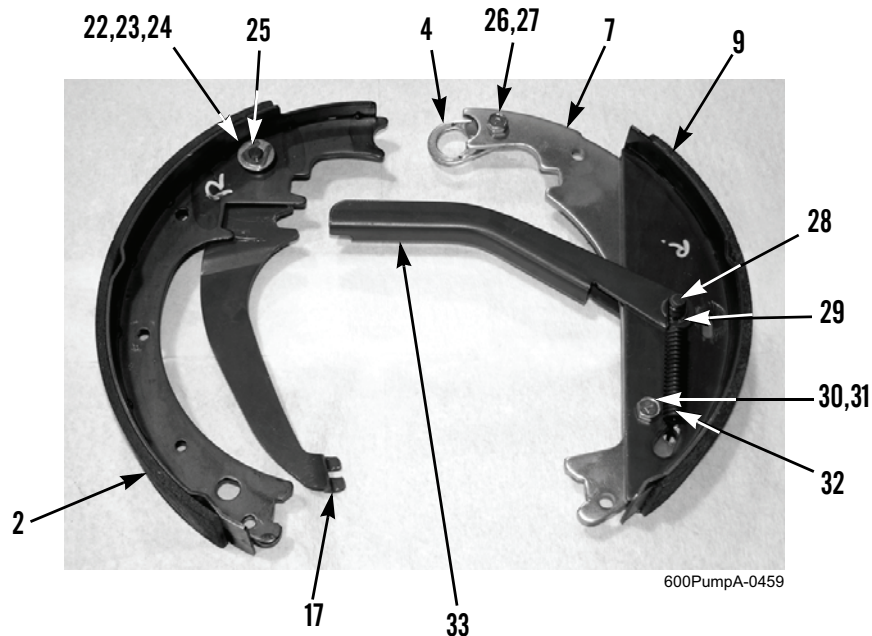

Figure 6. Right-Side Service Brakes.
- a. Install backing plate (Figure 6, Item 8) on five mounting studs (Figure 6, Item 39) at axle spindle (Figure 6, Item 40) with five nuts (Figure 6, Item 36). Tighten nuts evenly to 50 ± 5 lb-ft (68 ± 7 Nm).
- b. Remove plug from flex brake line (Figure 6, Item 37) and connect flex brake line to wheel cylinder (Figure 6, Item 41).
- c. Install wheel cylinder (Figure 6, Item 41) on backing plate (Figure 6, Item 8) with two new capscrews (Figure 6, Item 35) with integral lockwashers. Tighten capscrews with integral lockwashers to 168 ± 17 lb-in. (19 ± 1.9 Nm).
- d. Feed hand brake cable (Figure 6, Item 16) through backing plate (Figure 6, Item 8), then connect hand brake cable sheath (Figure 6, Item 38) to backing plate.
- e. Wipe clean any grease from hand brake cable (Figure 6, Item 16) or hand brake cable sheath (Figure 6, Item 38) to ensure grease does not come in contact with brakeshoe linings.
2. Install parking shoe lever (Figure 6, Item 33) on front brakeshoe (Figure 6, Item 9) and backing shoe lever (Figure 6, Item 7) with pin (Figure 6, Item 28) and new retaining ring (Figure 6, Item 29).
3. Secure backing shoe lever (Figure 6, Item 7) to front brakeshoe (Figure 6, Item 9) with capscrew (Figure 6, Item 31) and new locknut (Figure 6, Item 30). Tighten locknut as needed to ensure a 0.30-in. (0.76-mm) clearance between backing shoe lever and front brakeshoe.
4. Install spring (Figure 6, Item 32) on backing shoe lever (Figure 6, Item 7) and pin (Figure 6, Item 28).
5. Install link (Figure 6, Item 4) on backing shoe lever (Figure 6, Item 7) with bolt (Figure 6, Item 27) and new locknut (Figure 6, Item 26). Measure clearance between backing shoe lever and link. Tighten locknut as needed to ensure a 0.30-in. (0.76-mm) clearance.
6. Install transporter washer (Figure 6, Item 24), new spring tension washer (Figure 6, Item 23), washer (Figure 6, Item 22), and new spring tension clip (Figure 6, Item 25) securing parking brake link (Figure 6, Item 17) to rear brakeshoe (Figure 6, Item 2).
7. Ensure wheel cylinder pushrod is installed in backing shoe lever (Figure 6, Item 7), position front brakeshoe (Figure 6, Item 9) at backing plate (Figure 6, Item 8), and install link (Figure 6, Item 4) on anchor pin (Figure 6, Item 5).
8. Install pin (Figure 6, Item 13), retainer (Figure 6, Item 10), spring (Figure 6, Item 11), and retainer (Figure 6, Item 12) to secure front brakeshoe (Figure 6, Item 9) to backing plate (Figure 6, Item 8).
9. Install hand brake cable (Figure 6, Item 16) on parking brake link (Figure 6, Item 17).
10. Install spring (Figure 6, Item 14) and brake adjuster (Figure 6, Item 15) between backing shoe lever (Figure 6, Item 7) and rear brakeshoe (Figure 6, Item 2) and position rear brakeshoe.
11. Install pin (Figure 6, Item 18), retainer (Figure 6, Item 21), spring (Figure 6, Item 20), and retainer (Figure 6, Item 19) to secure rear brakeshoe (Figure 6, Item 2) to backing plate (Figure 6, Item 8).
12. Position parking shoe lever (Figure 6, Item 33) into parking brake link (Figure 6, Item 17).
13. Install washer (Figure 6, Item 3) on anchor pin (Figure 6, Item 5) at backing plate (Figure 6, Item 8).